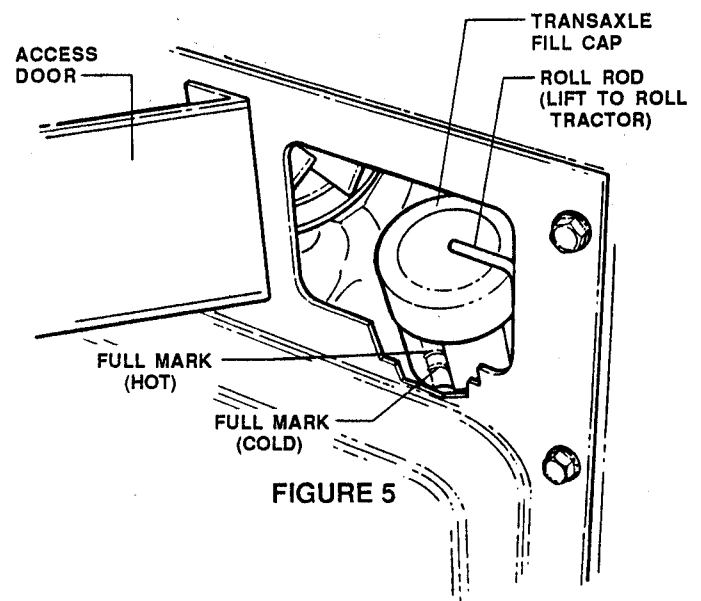

FIGURE 5
- CHECK TRANSAXLE FLUID and add SAE 30W oil as needed to bring level up to (but not over) the full mark. See Figure 5.